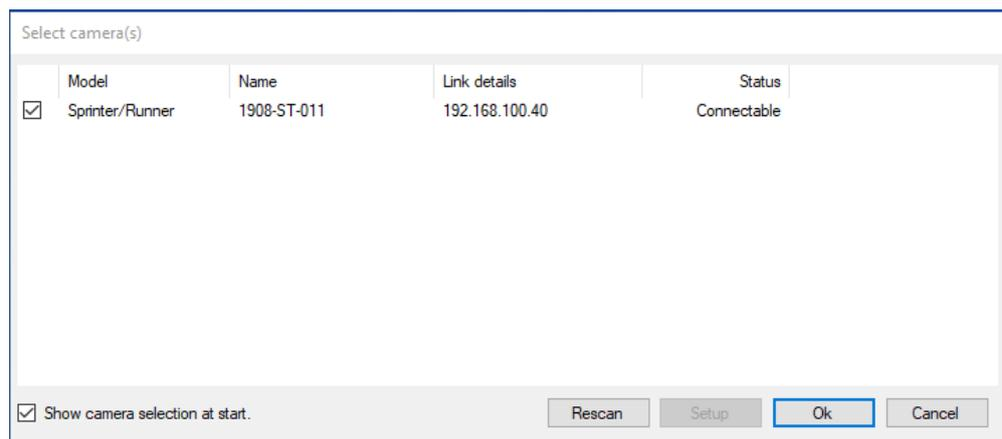

Figure 2: Camera detection
2. When starting, the software is detecting cameras over the network. Detection results are listed (see Figure 2) and at least one camera must be selected (check or more tick boxes) before clicking on “Ok”.